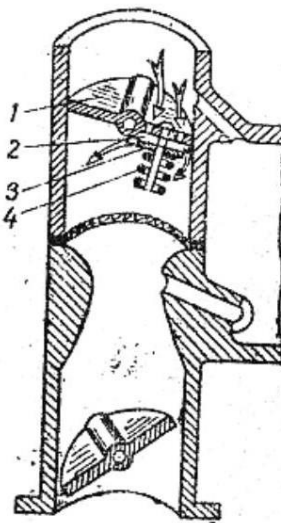

Figure 23. Drive mechanism. 1-air barrier cover; 2-hole; 3-valve; 4-spring;
3. Additional carburetor devices To prepare a combustible mixture suitable for operation in various engine modes, a simple carburetor drive system is equipped with a main metering system, an economizer, and an accelerator pump (Figure 23).